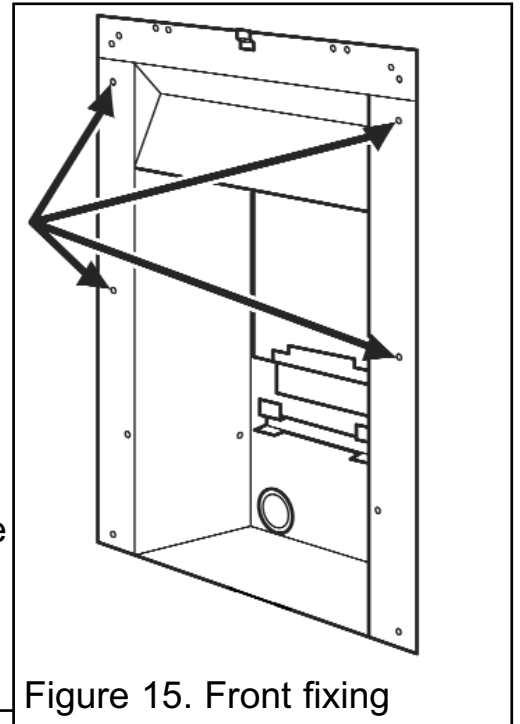

Figure 15. Front fixing
3. Mark the fireplace front surround through the four fixing holes in the side flanges of the hotbox (See figure 15).